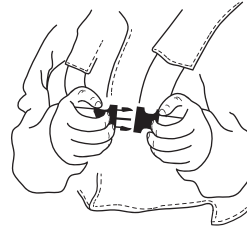

Fig. 1
The harness of the brush cutter is equipped with an accessible quick release lock located at the breast of the user, which is used as a safety feature in order to throw away the machine, in the event of fire (Fig. 1). Always check before using the brush cutter that the quick release lock works correctly.
- ▶ At the front of the harness there is a quick release easily accessed joint (located at the breast of the user), which can be used in case of danger that requires freeing yourself from the machine (Fig. 1).